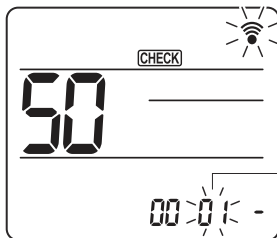

Fig. 7-19
③ Select a mode
Press the [DOWN] button to set Mode number ②. (Fig. 7-19)